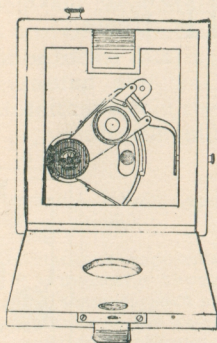

FIG. 3—POSITION OF SHUTTER
1. To set the shutter open, first press the button. This will bring the shutter into the position shown in figure 3.